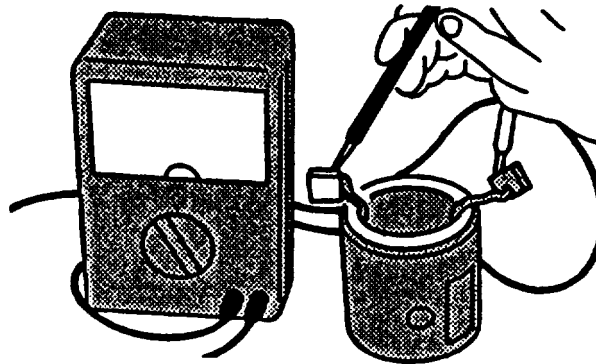

FIGURE 3-23. Checking for Open Field Coil
- f. Using a multimeter, touch one probe to lead wire and other one to brush, refer to FIGURE 3-23. There should be continuity. If there is no continuity, field windings are open circuited. Replace the yoke assembly.